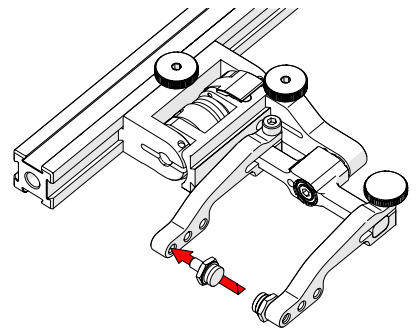

Fig. 68 - Place pivot buttons
4. Using the supplied 3/8 in wrench (Fig. 24), place the pivot buttons as required (Fig. 68).